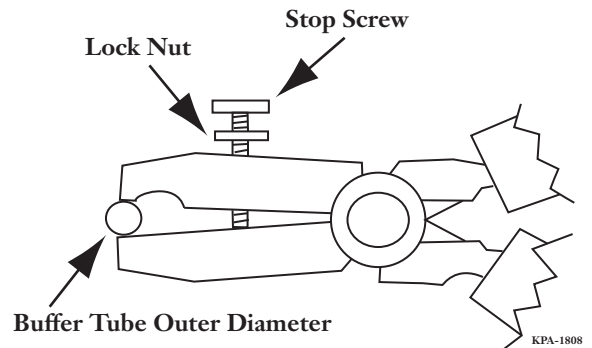

Figure 48
- Step 2:** Tighten the locknut on the tool (Figure 48).